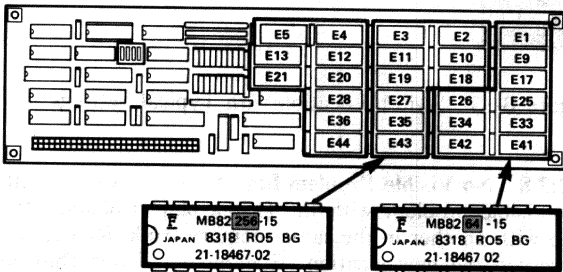

Figure B-12 Chip Size Identification
B.2.2.6 Check Chip Size – Check that all nine chips in each bank are the same size. Check the number, either 64 or 256, on the chips in each bank (see Figure B-12). They must have the same number within each bank, but may differ from another bank. For example, 64K chips may be in bank 1, and 256K chips may be in bank 2.